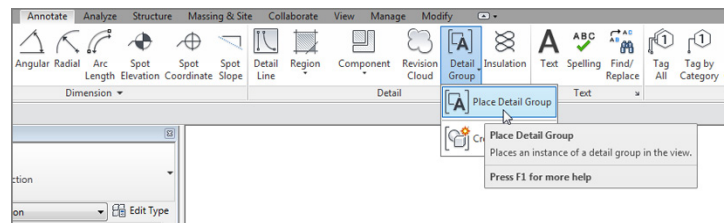

FIGURE 12.69: Choose Place Detail Group.
2. On the Annotate tab, click Detail Group ➤ Place Detail Group, as shown in Figure 12.69.